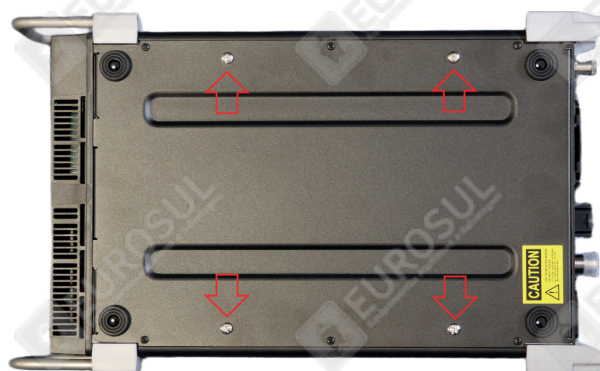

Figure 7
- Use the PH2 screwdriver to fit the repeater onto the rack shelf. The repeater comes equipped with the required four screws to attach it to the rack shelf as per the red arrows in Figure 7 below. Fitment may require corresponding holes to be drilled in the rack shelf.